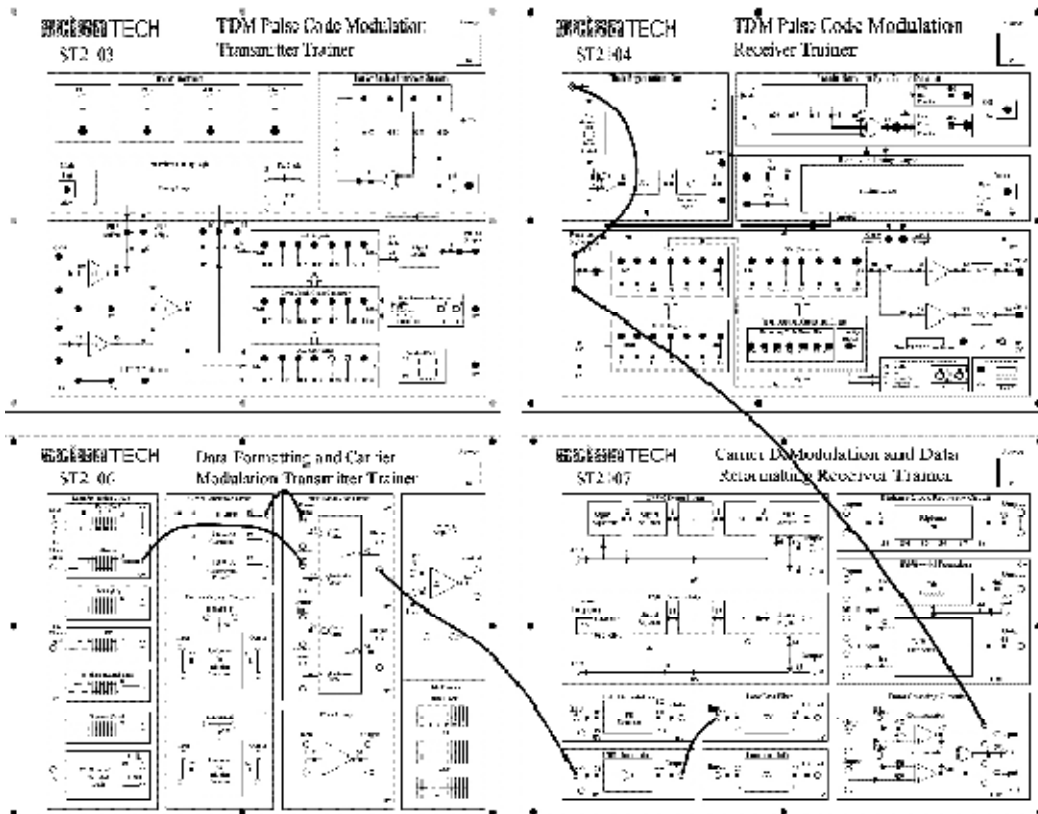

Figure 7
14. Switch off the power. Connect additional board as shown in figure 7 as follows :
a. On ST2106 trainer : i) NRZ (L) output (TP5) to carrier modulation circuit's modulation input (TP27).